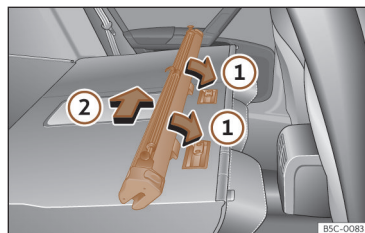

Fig. 134 Assembling the net partition in the rear seat backrests.
- Place the net casing in the rail slots in the direction of the arrows»» Fig. 134 ①.
- Push the casing towards the left side of the vehicle in the direction of arrow»» Fig. 134 ② and as far as it will go.
- Pull the net casing out approximately 5 cm in the opposite direction to the arrow»» Fig. 134 ②.
- Remove the casing from the rails by pulling in the opposite direction to the arrows»» Fig. 134 ①.